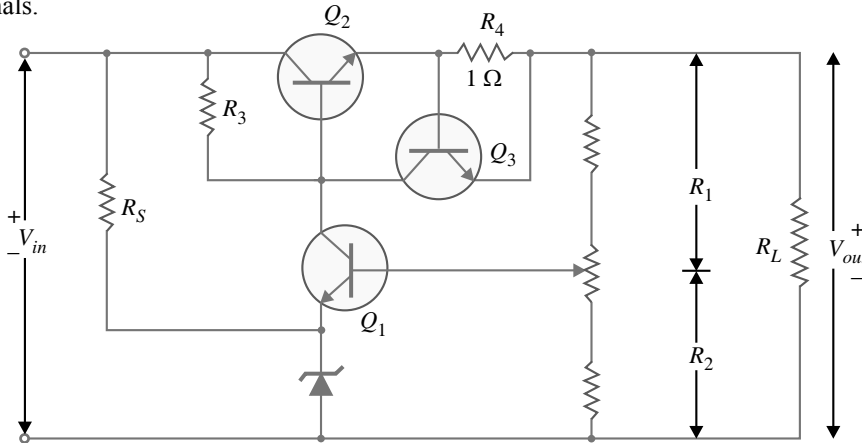

Fig. 15.20
The main drawback of any series regulator is that the pass transistor can be destroyed by excessive load current if the load is accidentally shorted. To avoid such an eventuality, a current limiting circuit is added to a series regulator as shown in Fig. 15.20. A current limiting circuit consists of a transistor ( $Q_3$ ) and a series resistor ( $R_4$ ) that is connected between base and emitter terminals.
**Example 15.20.** In the series feedback voltage regulator shown in Fig. 15.20,  $R_1 = 2 \text{ k}\Omega$ ,  $R_2 = 1 \text{ k}\Omega$ ,  $V_Z = 6 \text{ V}$  and  $V_{BE} = 0.7 \text{ V}$ . What is the regulated output voltage?
**Example 15.21.** In the series feedback regulator circuit shown in Fig. 15.20,  $R_1 = 30 \text{ k}\Omega$  and  $R_2 = 10 \text{ k}\Omega$ . What is the closed loop voltage gain?